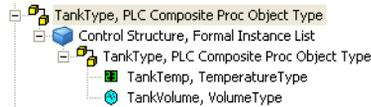

Figure 9. Created Tank Object Type
20. In the Process Object Configuration aspect, click the  button and add an instance of the real signal type ‘VolumeType’. Name the instance ‘TankVolume’. Figure 9 shows the end result.